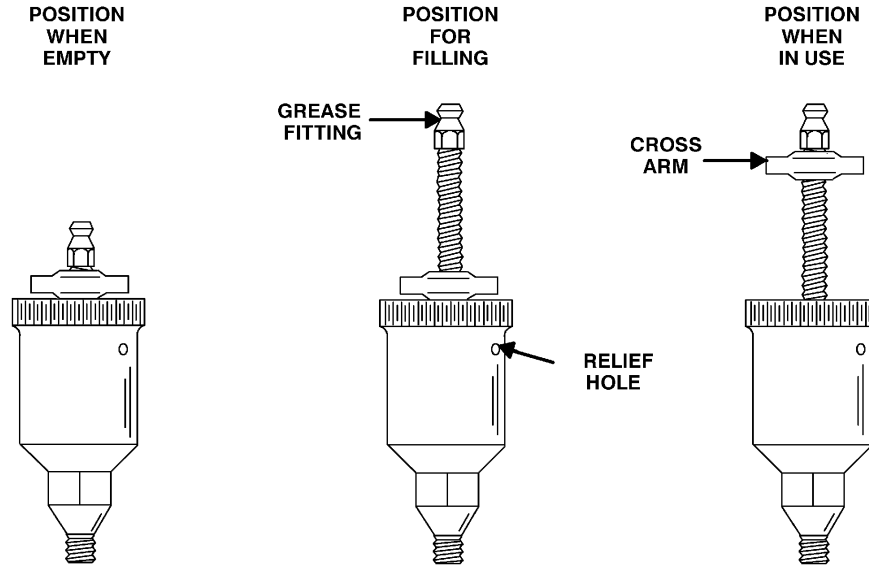

Figure 4. Automatic Lubricating Grease Cup
Before removing the impeller, turn the cross arm on the automatic grease cup (10) clockwise until it rest against the cover (see Figure 4). This will prevent the grease from escaping when the impeller is removed.
apes from the relief hole. Turn the grease cup arm counterclockwise until it is at the top of the stem; this will release the spring to apply grease to the seal (see Figure 4).